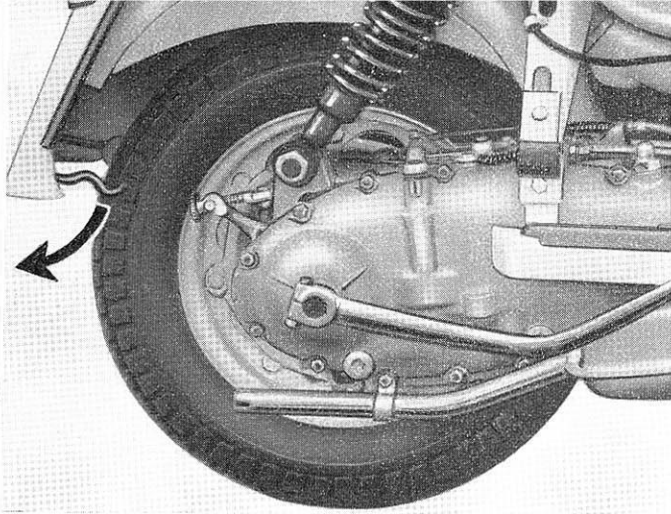

Fig. 9
- turn downwards the locking spring of the side panel (see fig. 9);